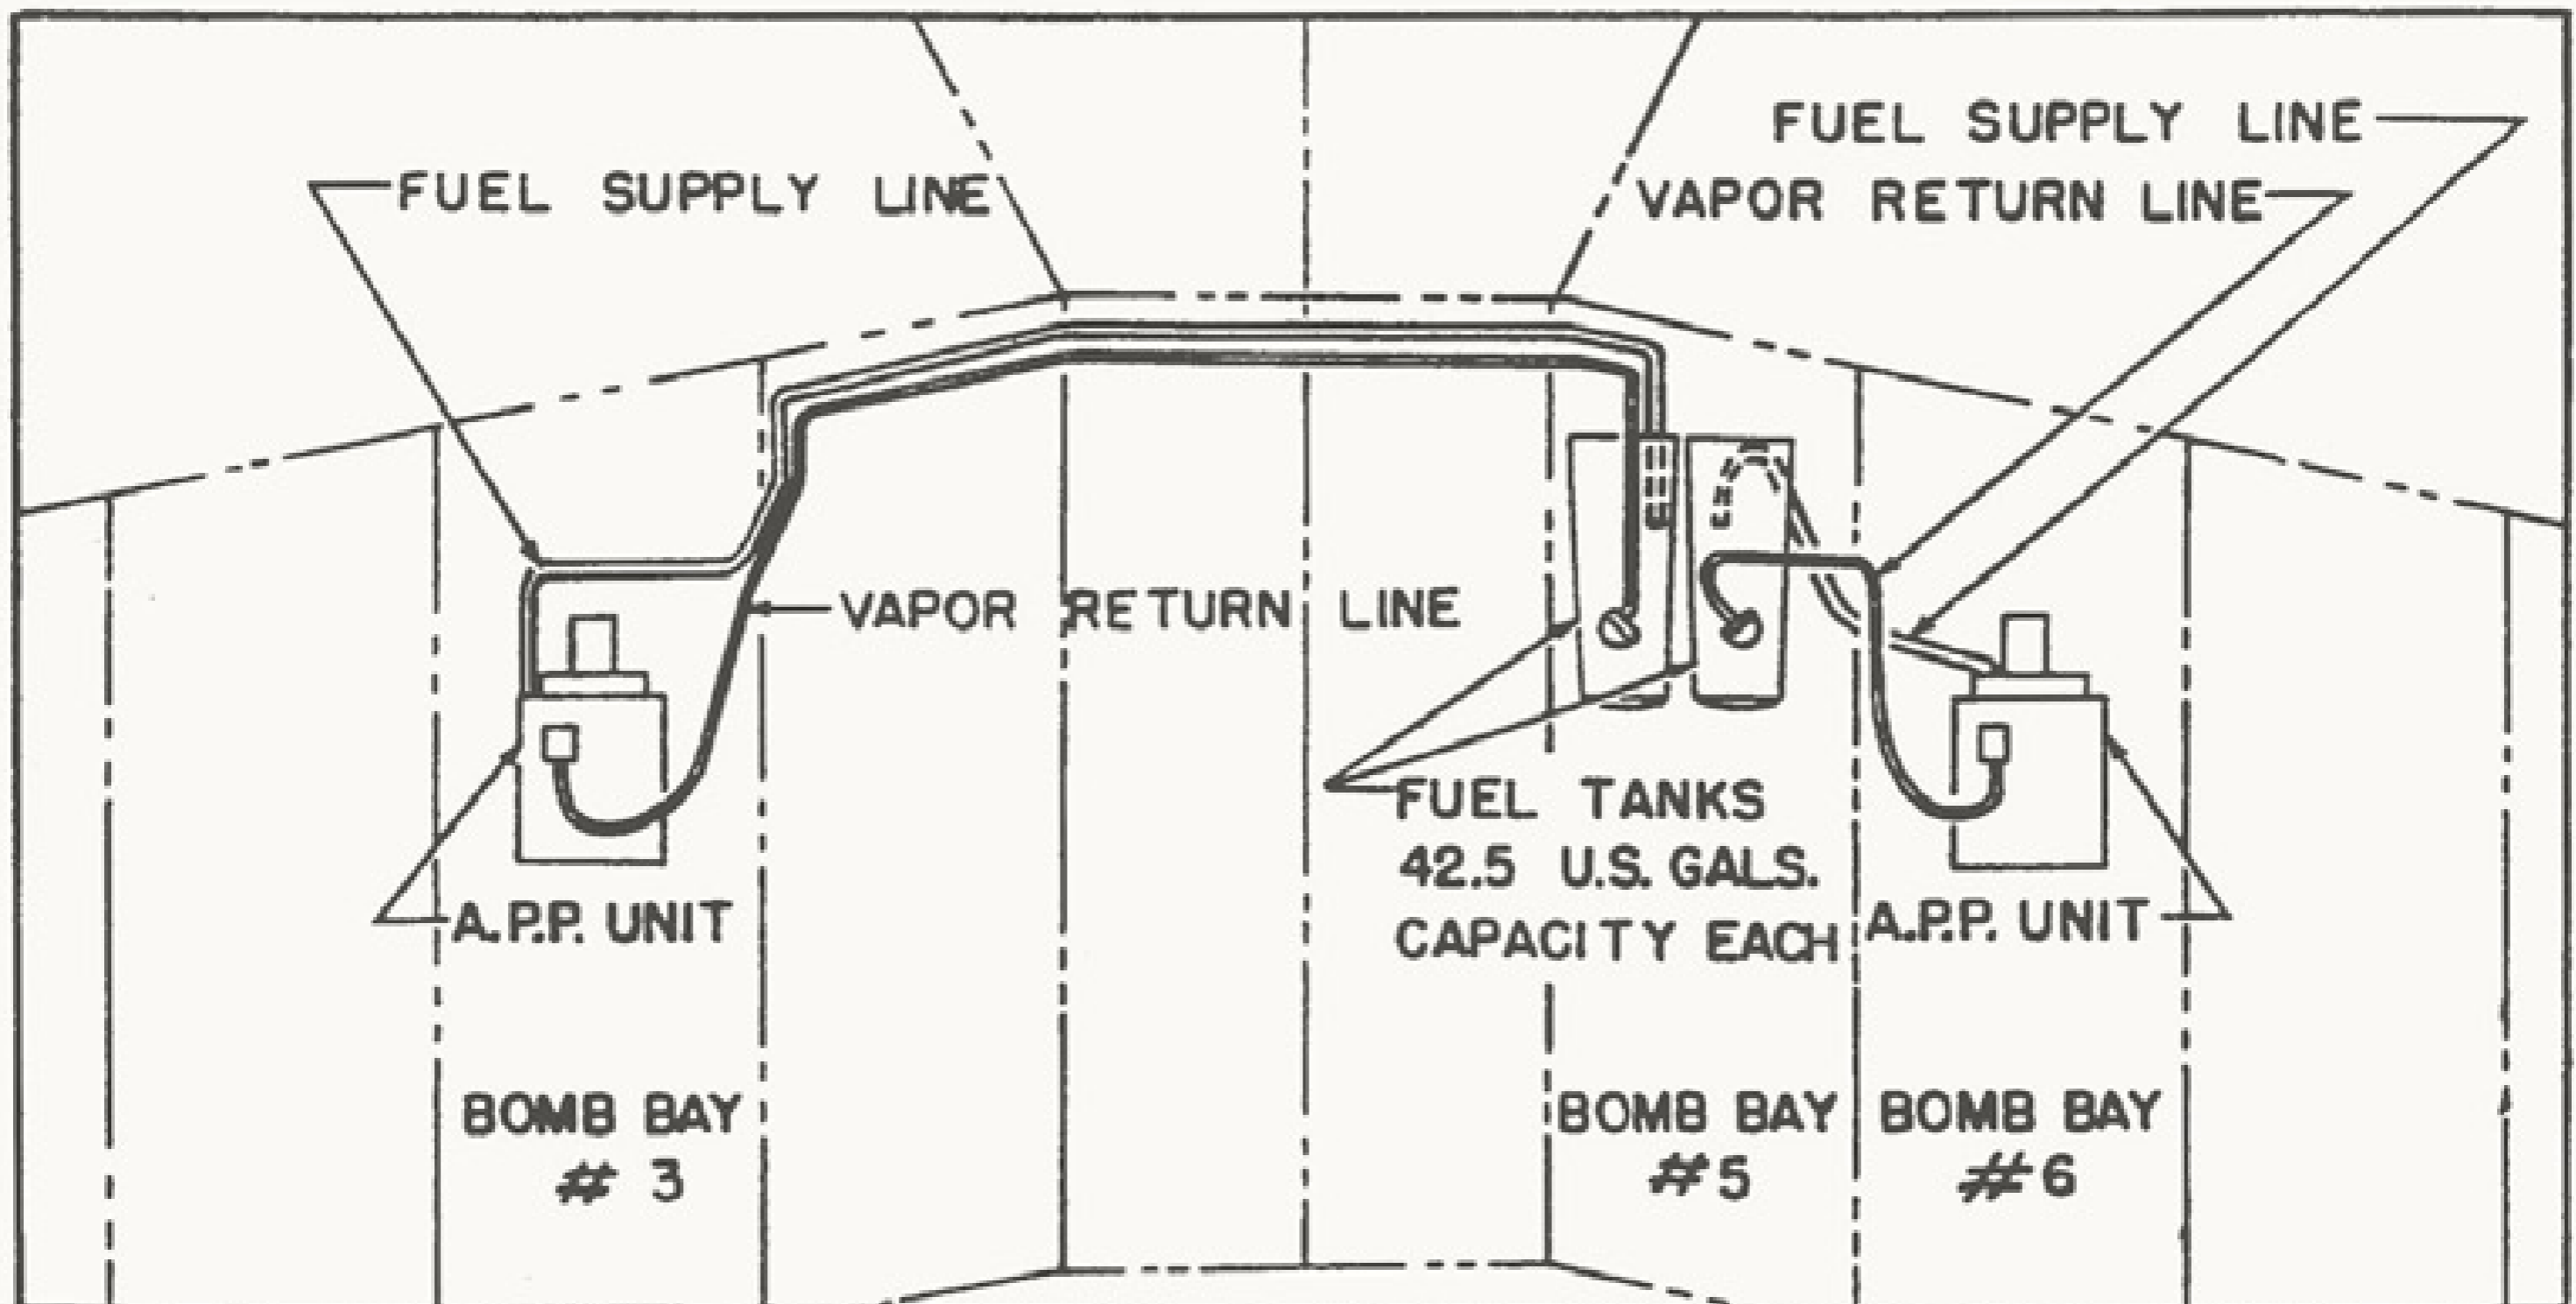

Figure 21. A.P.U. Fuel System
45. A.P.U. FUEL SYSTEM. (See figure 21.)- Each A.P.U. is supplied with fuel from a 42.5 US gallon fuel tank. Both tanks are installed in No. 5 bomb bay. A primer switch for each power unit is provided on the A.P.U. control panel. There are no quantity gages but a dip stick is located in the top of each fuel tank for checking fuel level when the airplane is on the ground.